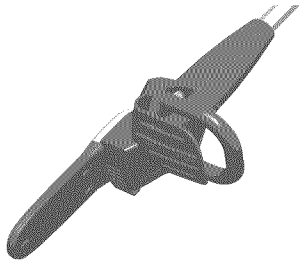

Figure 23 - Assembled Power Head and Power Head Adapter
4. Slide power head into power head adapter until units “snap” together (see Figure 23). **IMPORTANT:** Both release buttons on power head adapter must be fully engaged.